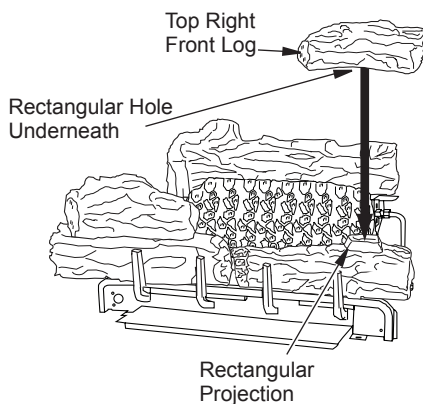

Figure 33 - Installing Top Right Front Log
- Place top right front log onto front right log. Match the rectangular projection on top of the front right log with the rectangular hole on the bottom of the top right front log as shown in Figure 33. The top right front log will rest on top of the front right log.